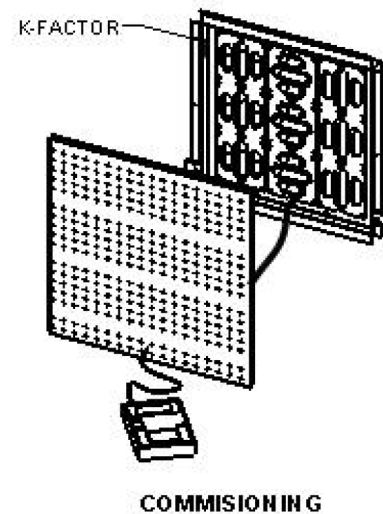

Figure 4
**Commissioning (Balancing):** Uninstall the front cover for commissioning. The balancing port is positioned on the lower edge of the unit. The K-factor of the unit is stated on K-factor label placed on one of the side of the Plenum box. The k-factor can also be found on our website in the relevant k-factor guide. See Figure 4